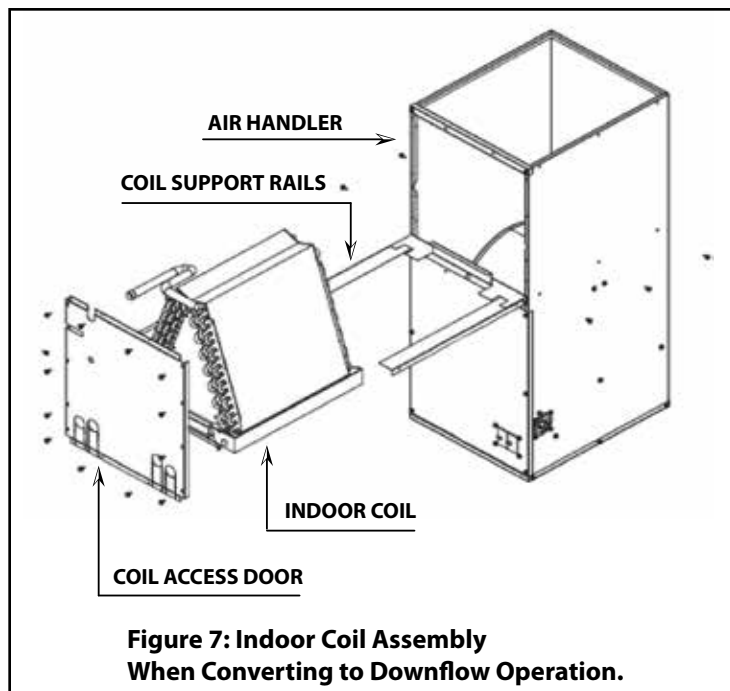

Figure 7: Indoor Coil Assembly When Converting to Downflow Operation.
6. Re-install the indoor coil support rails in the holes provided in the air handler casing as shown in Figure 7. Use the six (6) screws that were removed in step 4 to secure the indoor coil support rails to the air handler casing.
7. Re-install the cooling coil in the upright position as shown in Figure 7.
8. Remove the new indoor coil access panel from the conversion kit and install over the indoor coil section as shown in Figure 7.